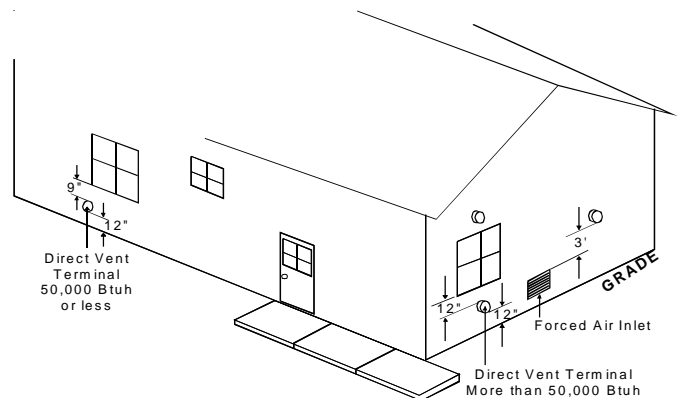

FIGURE 1
1. Determine termination locations based on clearances specified in furnace installation instructions, and following steps as shown in Figures 1, 3, 6, 7, 8 and 9.